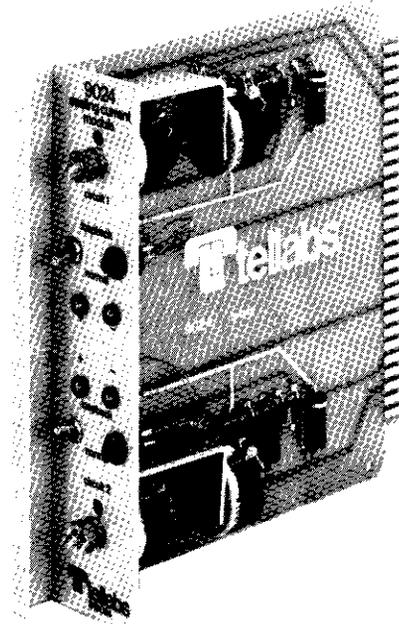

figure 1. 9024 Sealing Current module
1.01 The 9024 Sealing Current module (figure 1) provides a variable, balanced dc source of sealing current for two individual circuits. Each individual circuit is provided with a *loopback/normal* switch, which may be used to activate polarity-sensitive dc loopback circuitry at the far end of the transmission facility. Panel-mounted LED's provide a visible indication of loopback status.